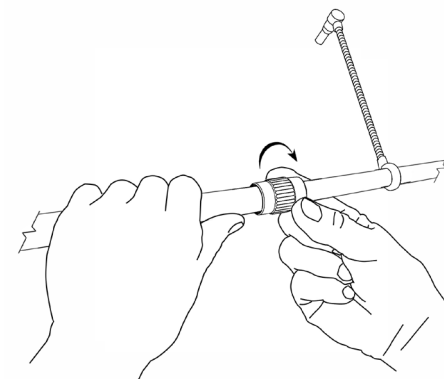

Figure 3. Loosening the Clutches
2. Remove the PianoMic™ telescoping bar from the case and loosen the two clutches on either side of the two microphone goosenecks (See Figure 3). When adjusting the clutches, be sure to hold the larger diameter tube section with one hand while rotating the clutch with the other hand as indicated in figure 3. However, do not loosen the clutches all the way; just enough so the bar can be extended and still have a little friction. This will make it easier to adjust the length of the bar from both ends once it is placed inside the piano.